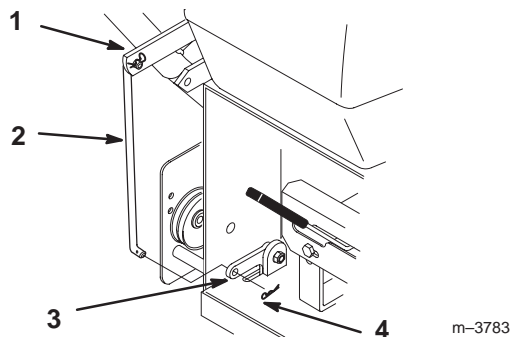

Figure 9
2. Remove hairpin cotters from bottom end of blade control rod (PTO) (Fig. 9).
3. Secure blade control (PTO) rod through hole in bellcrank with hairpin cotters (Fig. 9).